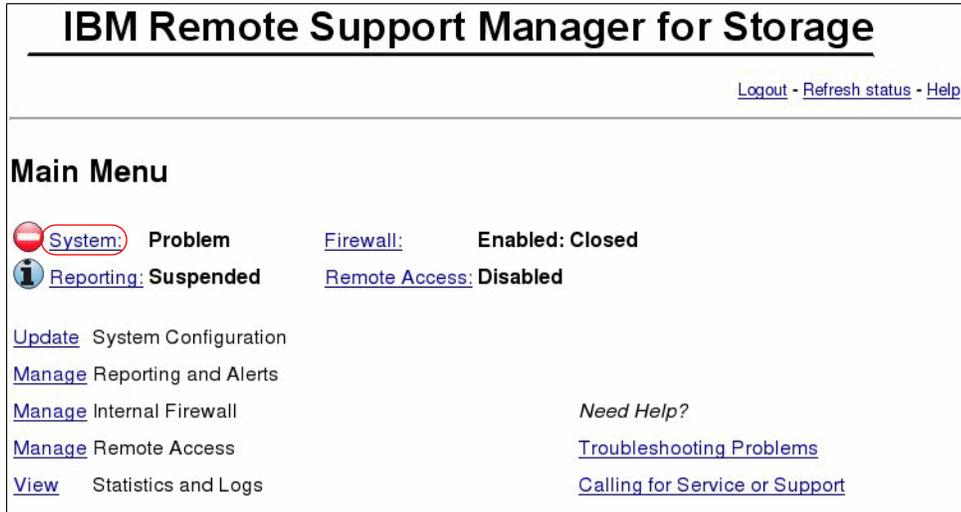

Figure 6-61 RSM main menu
- You return to the main menu. The upper right menu contains a logout link. To start the setup, click **System**, as in Figure 6-61.